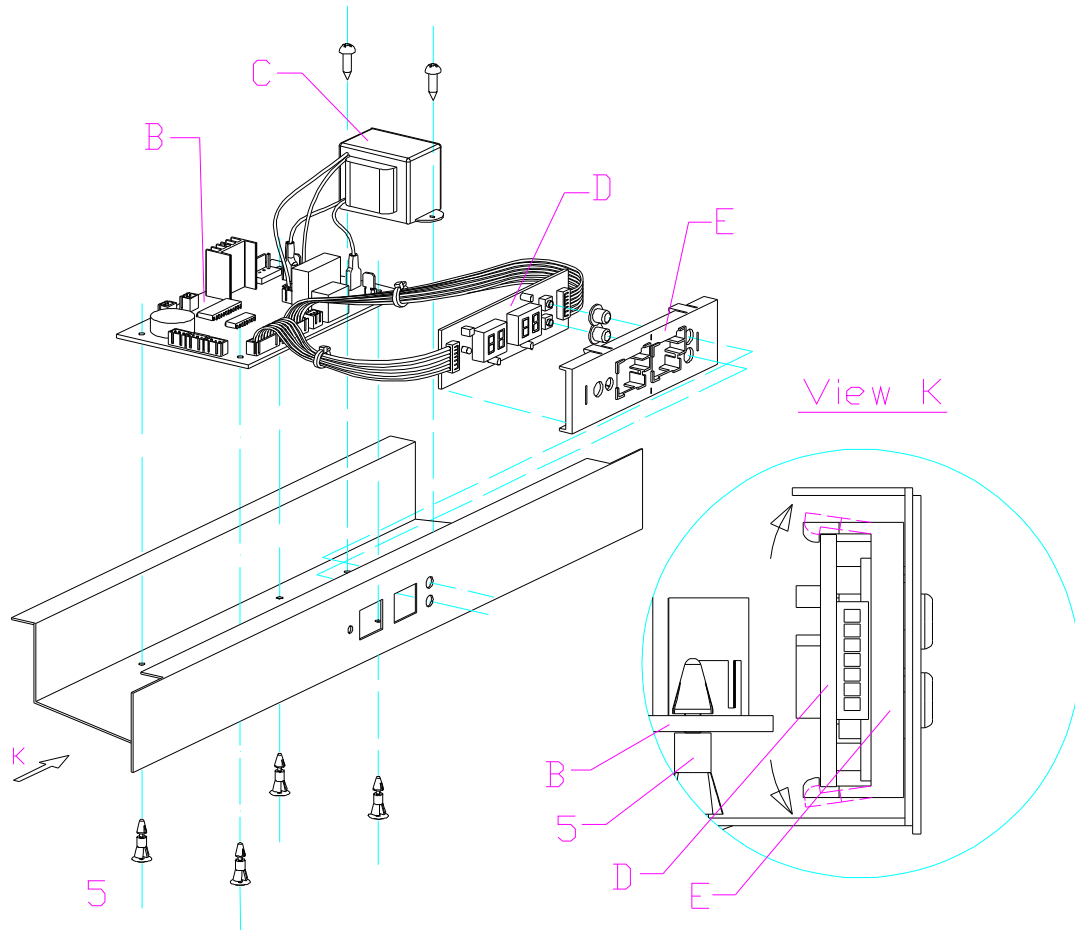
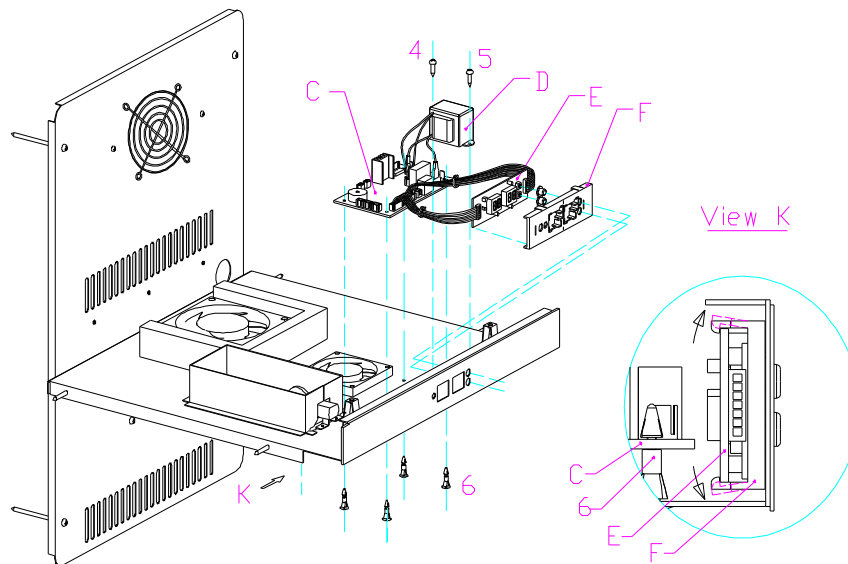

Fig.32
Fig.33
This malfunction is caused by the display panel's default, replace with the same model's display panel. (Fig.32 & Fig.33)
- b. Unplug all the connectors from the control panel, and press the 4 studs (5) one by one, and up draw the control panel, and take off the PCB board (B) . Replace it with the same model's PCB board; (Fig.32)
- c. Remove the the screw of the two transformer and take off the transformer (C) for replacement(Fig.32).
Pull the four 4 display cover fasteners on display board cover (E) as per arrowhead direction, and then remove the display board (D) and its two connectors from both sides. Replace the display board. See (Fig.32)
- b. Unplug all the connector, press the 4 studs (6) one by one. Updraw the PCB board, and draw off the PCB board(C), , replace it with the same model's PCB board. (Fig.33)
- c. Remove two fixing screw of the transformer, take off the tranformer (D) for replacement. (Fig.33)
Pull the four 4 fasteners of display board cover (F) as per arrowhead direction, and then remove the display board (E) and its two connectors from both sides. Replace the display board. See (Fig.33)